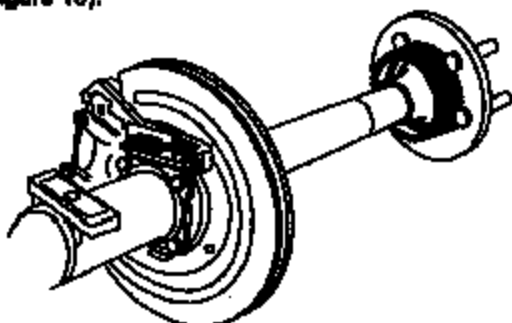

FIGURE 19
3. Install the axle shaft (refer to Figure 19).